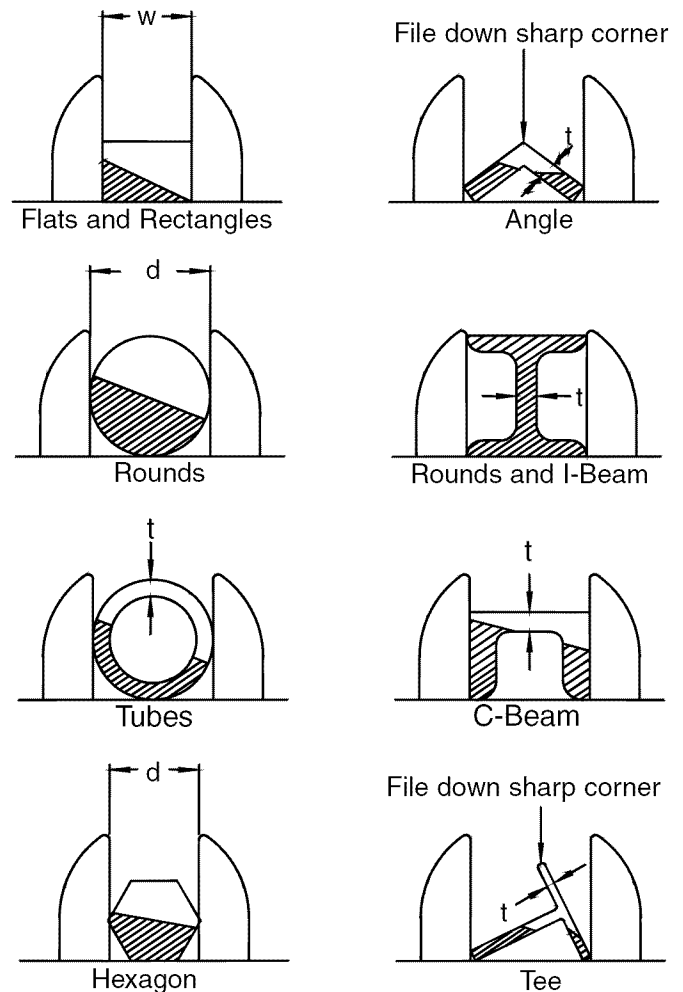

Figure 11 - Clamping Configurations and Thickness Average Calculation
When choosing a blade, the overall size of the work is not as important as the thickness average. The thickness average is the average width of the material which the blade will contact during each cut. Figure 11 describes how the thickness average should be calculated. The thickness average should be used when choosing a blade for the optimum number of teeth in contact, however, the three teeth rule should be applied to the minimum thickness, not the thickness average.
Refer to Figure 11, page 9.
Refer to Figure 11.
- The workpiece should rest flat on the workbed without the need for side support. Some suggested configurations are shown in Figure 11.
- Flats and rectangles have thickness averages of “W” (see Figure 11, page 9).